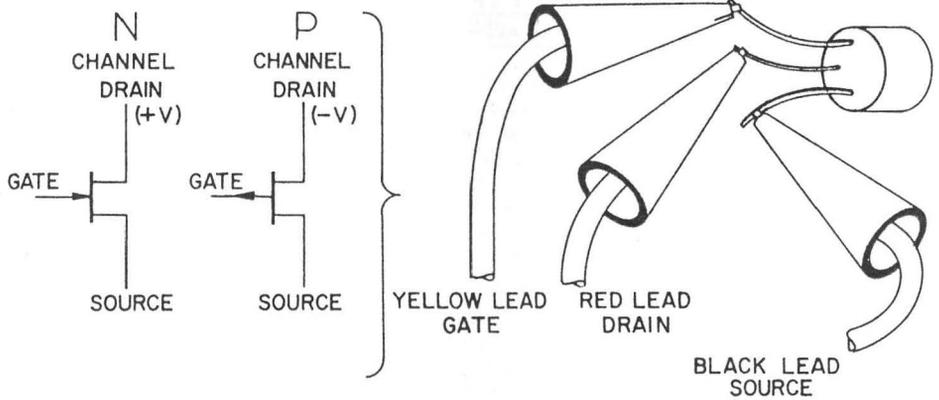

Figure 5. Connecting To A Field Effect Transistor For In-Circuit And Out Of
1. Connect the Source, Drain, and Gate leads as shown in figure 5 or 6. The blue lead is connected to the second gate of dual gate FETs. (See the section on dual gate field effect transistors when testing these devices).
4. Rotate the Gm ZERO control until the meter reads zero (0) and then depress the GAIN button and read the top scale of the meter directly in micromhos.